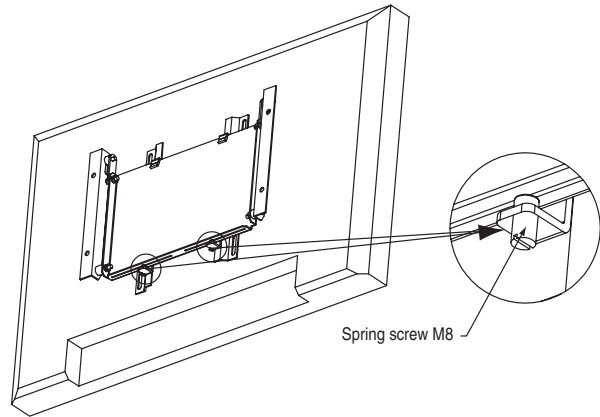

Figure 4
- ⑥ Depending on the weight of the screen, the spring screws may need to be tightened (see Fig. 4). Screws can also be tightened to lock display to the mount.